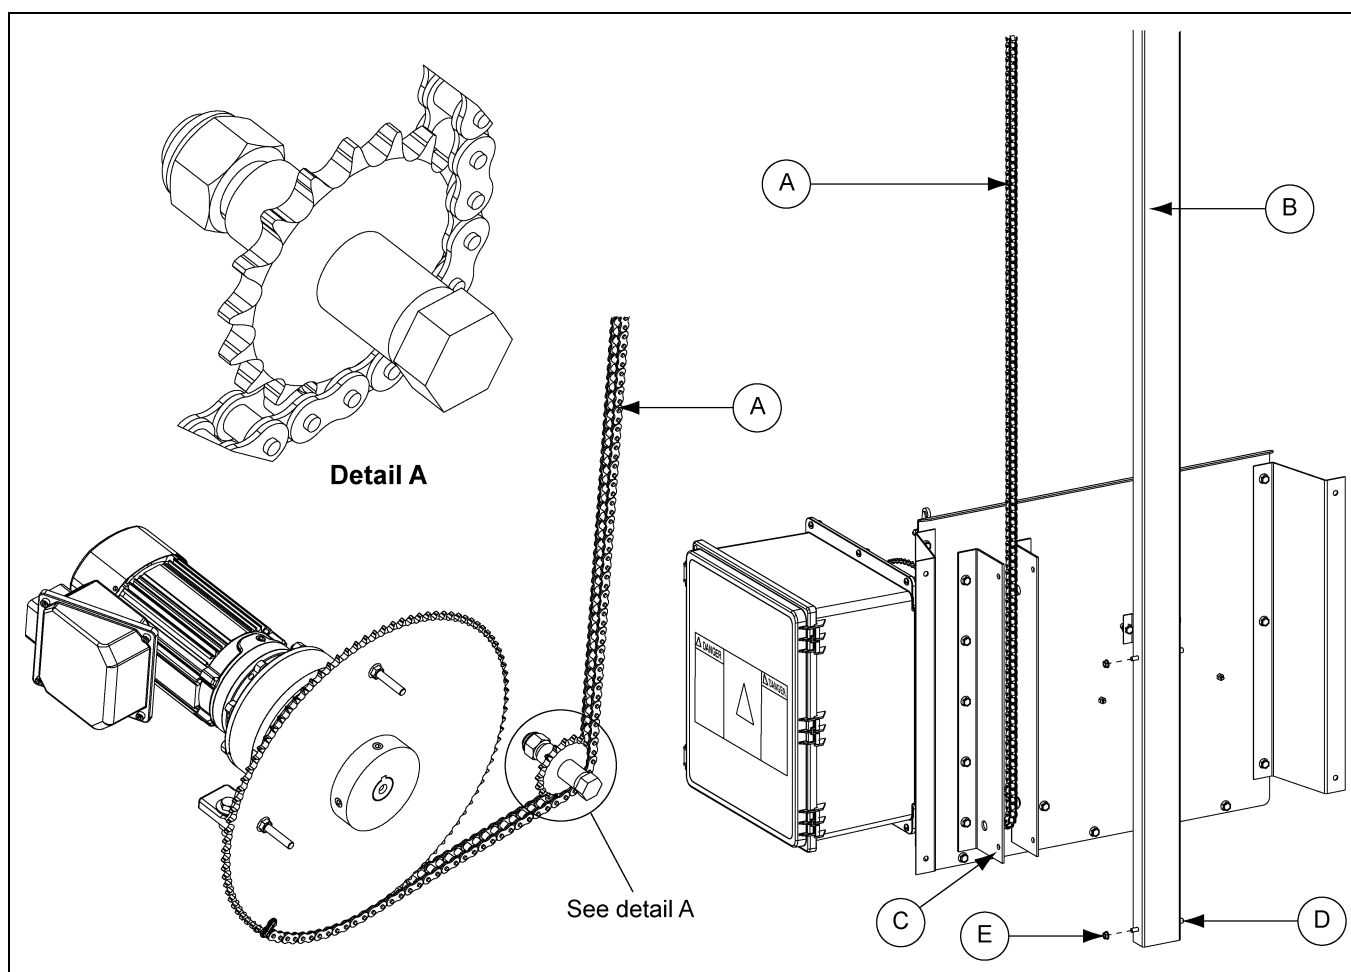

Figure 4F
2. Align the top and bottom tabs of the rear chain guard (B) with holes in the idler sprocket mounting brackets (C) and attach by inserting flange bolts (D) through the sides and tightening with flange nuts (E). (See Figure 4F.)
3. Feed chain (A) that is part of the chute position controller drive from the chute position controller around the small sprocket and out through the back panel and in between the idler sprocket mounting brackets (C). (See Figure 4F.)
4. Replace cover and secure for lifting. (See Figure 4F.)